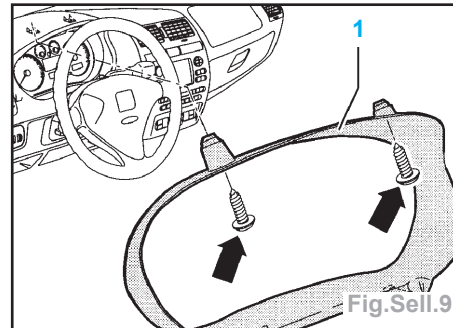

Fig.Sell.9
- Déposer les vis (flèches) (Fig.Sell.9).